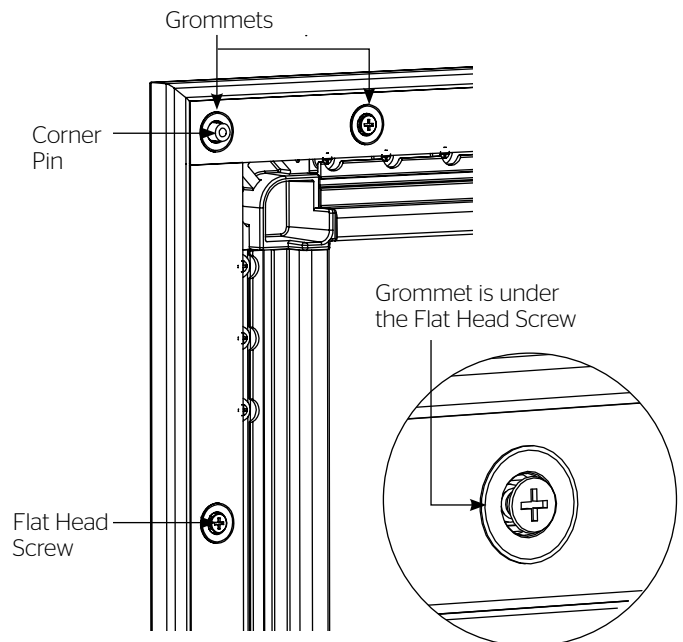

Figure 2
6. Wrap the corners of the surface around the inner frame and hook the grommets over the corner pins (Figure 2).
7. Hook the rest of the grommets over the flat head screws on all sides (Figure 2). Please be sure the grommets clear the head of each screw.